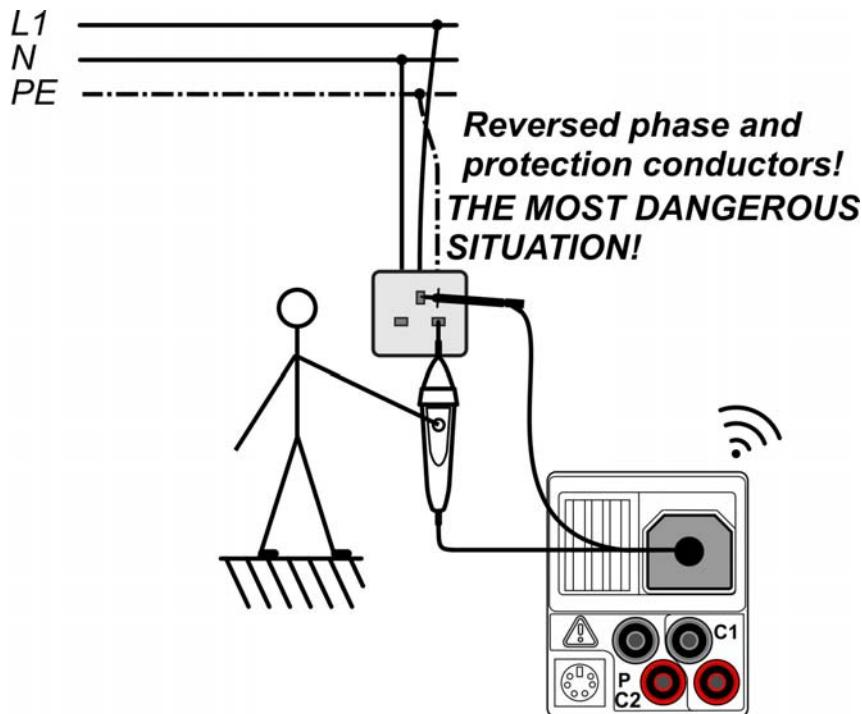

Figure C.3: Reversed L and PE conductors (application of tip commander)
- **Connect** commander to the item to be tested (see *Figure C.3*).